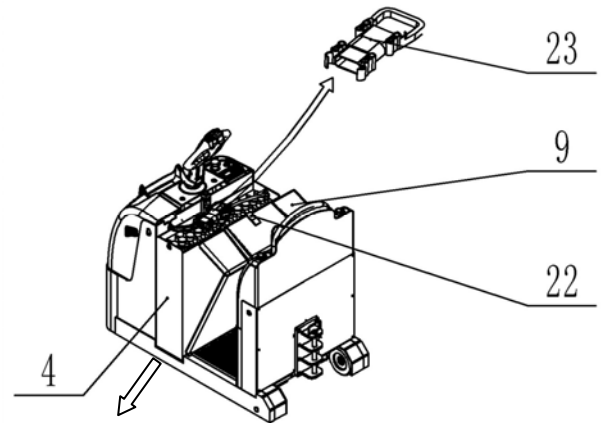

Fig. 9: Battery replacement
Park the truck securely and switch off the truck with the key switch (Fig. 1, pos. 14), and push the emergency button (1) or emergency button (13). Loosen the lock (22) and open the battery cover (9). Then remove the battery plug (Fig. 10, pos. 23), Then pull out the battery (4) according to fig. 9 to the securely parked and docked battery exchange system, if you would like to exchange to the side.